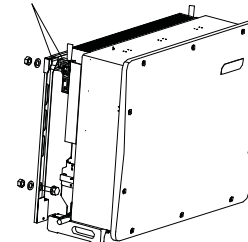

Figure 3.7 Install the inverter
1. Refer to Figure 3.7, drill holes for mounting screws based on the hole diameter of bracket using a precision drill keeping the drill perpendicular to the wall. Max depth is 3.6 in.